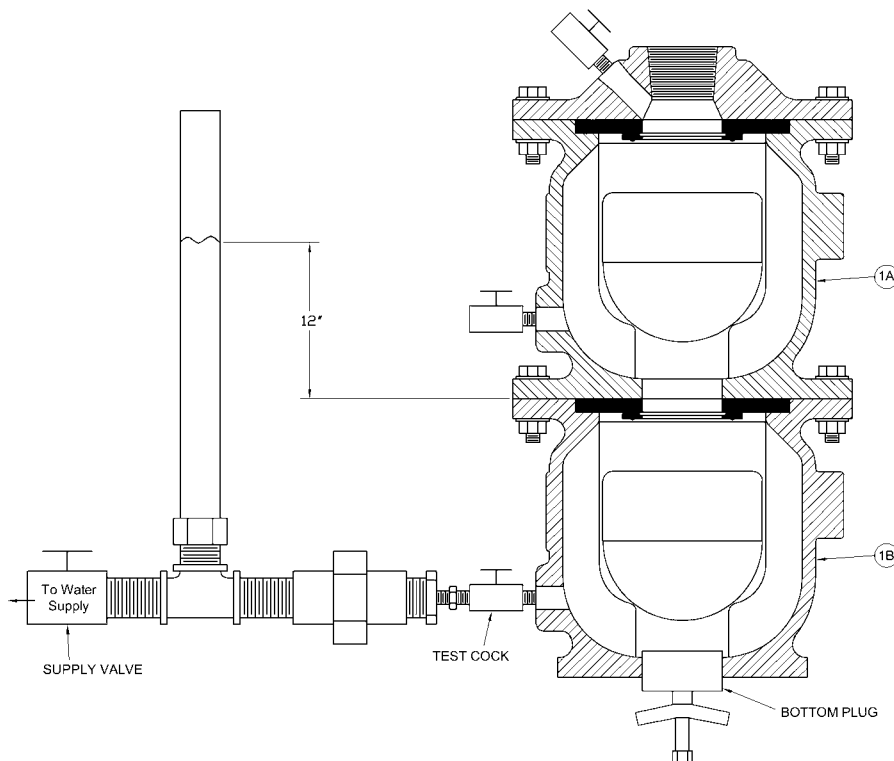

Figure 4: Testing of the Lower Chamber
5. Connect the test apparatus to the test port in the lower chamber (1B) as shown in figure 4.